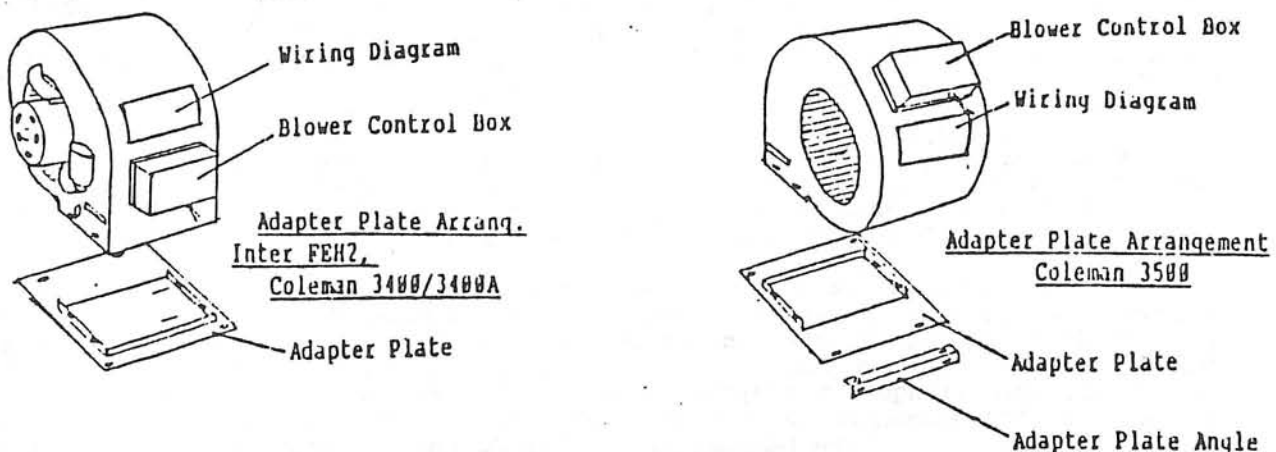

Figure 1
Plate (Mortex #90-9243-00). Coleman 3500/EB furnace uses Adapter Plate (Mortex #90-9243-00) as well as Adapter Plate Angle (Mortex #90-9238-00). ARRANGEMENT OF CONTROL BOX BASE, ADAPTER PLATE AND WIRING DIAGRAM ON BLOWER HOUSING WILL DIFFER WITH MAKE AND MODEL FURNACE. SEE FIG. 1 BELOW FOR DETAILS.
10. Install the blower assembly into furnace and secure adapter plate to furnace with the two screws furnished. Because adhesive backed wiring diagram is shipped loose, it will be necessary to attach diagram to blower housing in a position to be visible when furnace door is removed. See Fig. 1 for proper location.